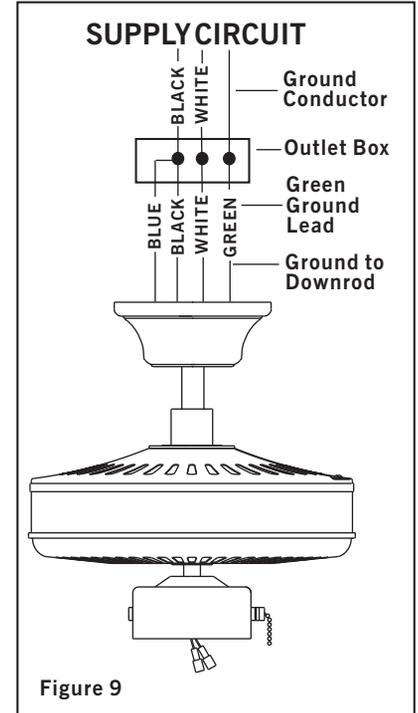

Figure 9
**Step 1** Connect the fan supply (black) wire and light supply (blue) wire to the black household supply wire as shown in Figure 9.